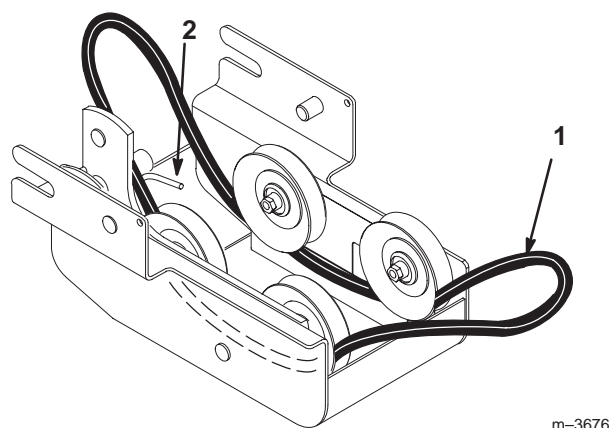

Figure 39
5. Route the new snowthrower belt under the pulleys and inside the belt guide (Fig. 39).